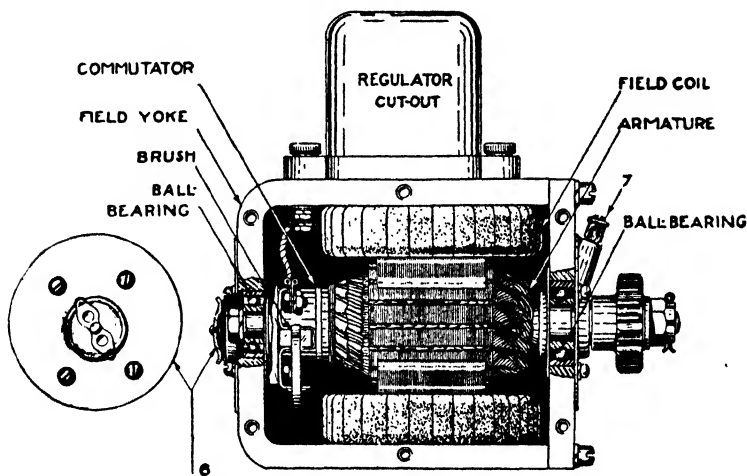
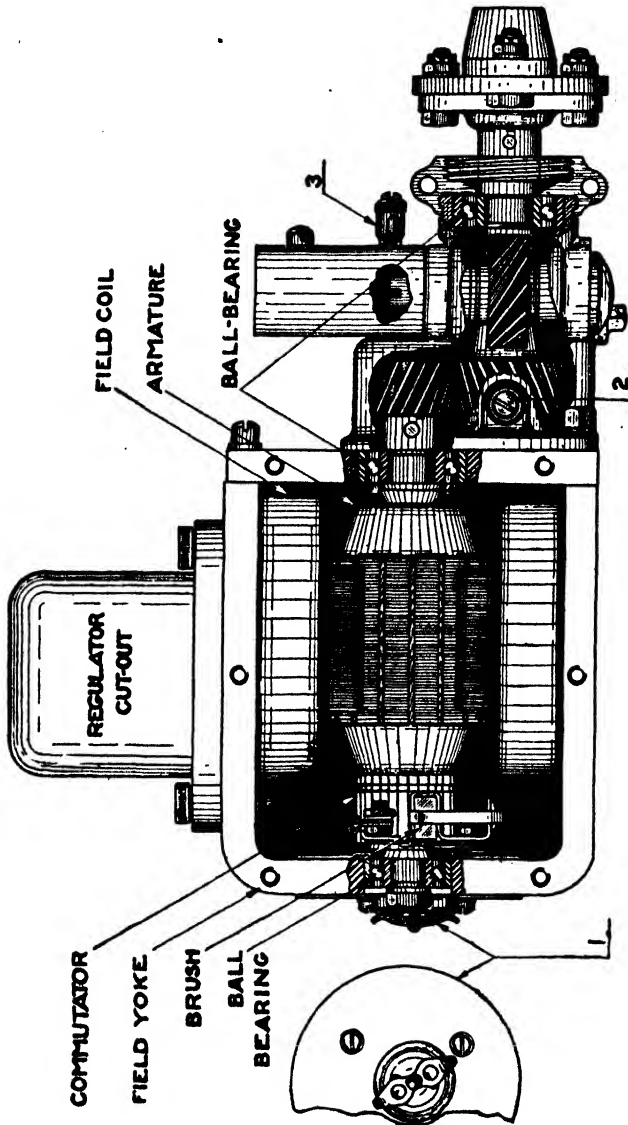

Fig. 280. Section of Gray & Davis Generator for Silent-Chain Drive
Fig. 281. Section of Gray & Davis Generator with Ignition Distributor Gearing (Shaft Drive)
**Generator.** The bipolar generator is designed for drive by silent chain, as shown in Fig. 280, or when combined with ignition distributor from the pump shaft, Fig. 281.